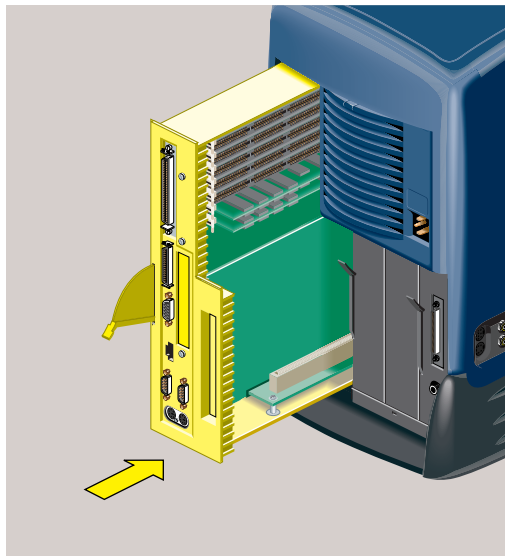

Figure 2-47 Reinstalling the System Module in the Chassis
2. Slide the system module into the chassis until the lever engages (Figure 2-47).